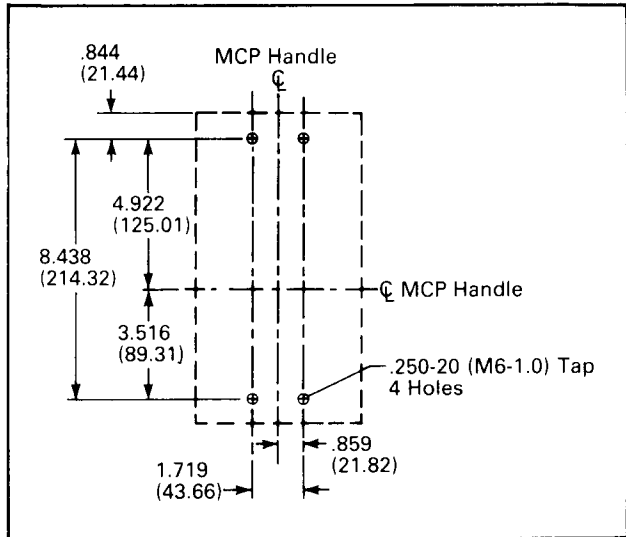
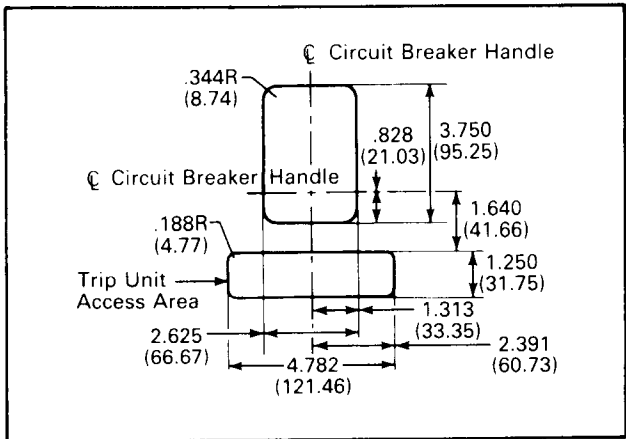

Fig. 2-4. MCP Mounting Bolt Drilling Plans
Fig. 2-5. MCP Escutcheon Dimensions
a. For individual surface mounting, drill mounting panel using the drilling plan shown in Fig. 2-4. For deadfront cover applications, cut out cover to correct escutcheon dimensions. (See Fig. 2-5.)